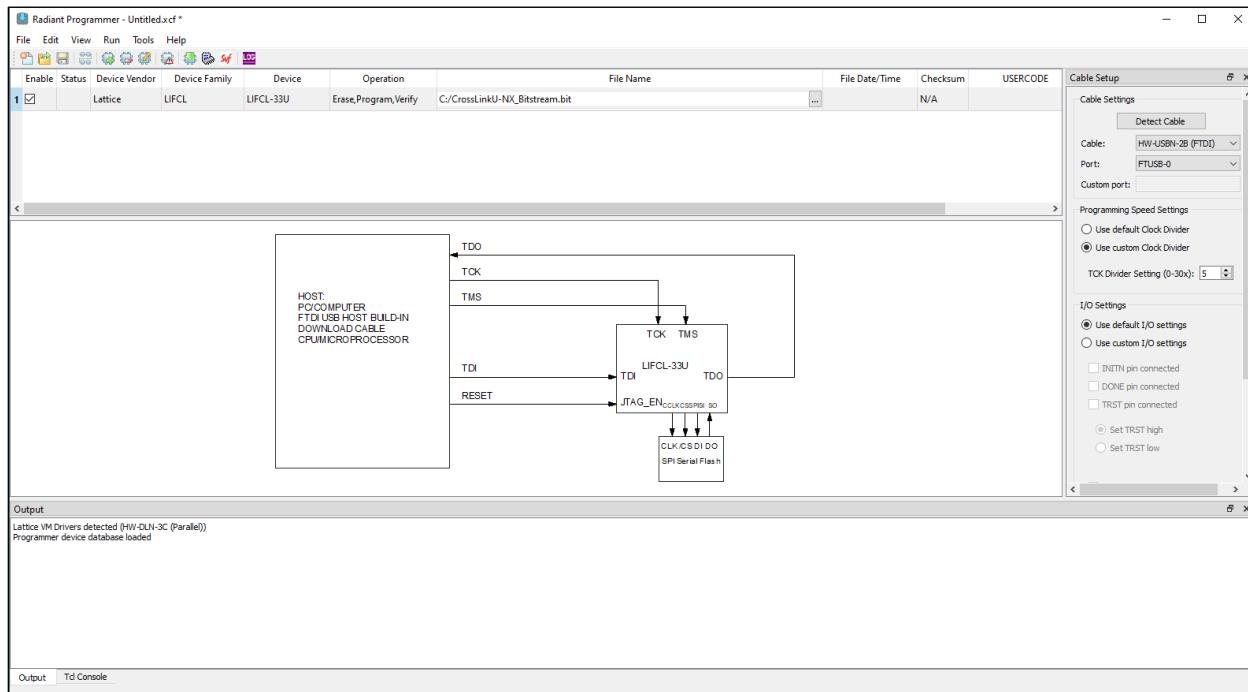

Figure 3.7. Lattice Radiant Programmer – External SPI Flash Memory
3. Once the board is successfully scanned, the window shown in Figure 3.7 opens. This interface allows you to enter a file name.